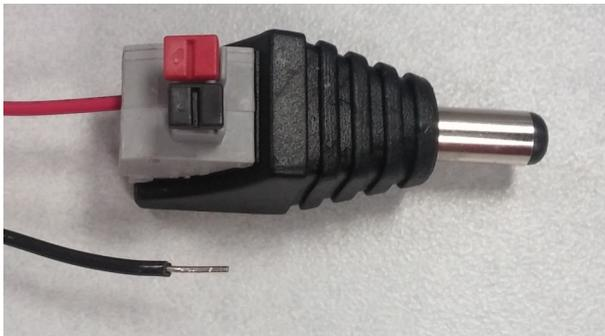

Figure 3: Plug connector
- Plug adapter (fig. 3)
Plug Connector (fig. 3): Used only with a Retriever or DataScout Modem.